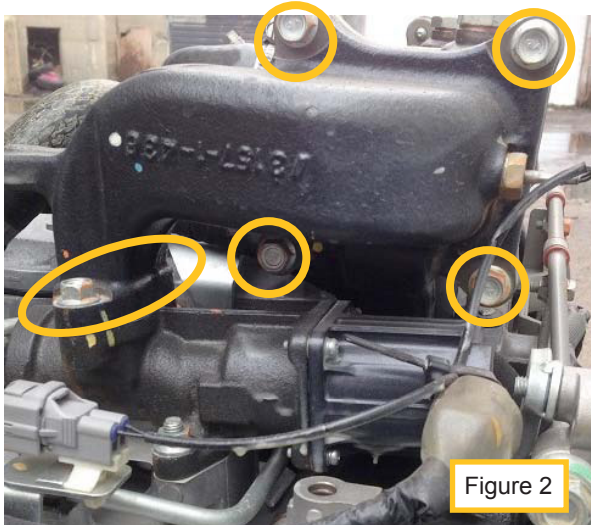

Figure 2
4. Remove 6 bolts on the EGR cooler outlet where connected at the EGR valve (see Figure 2, 2A).